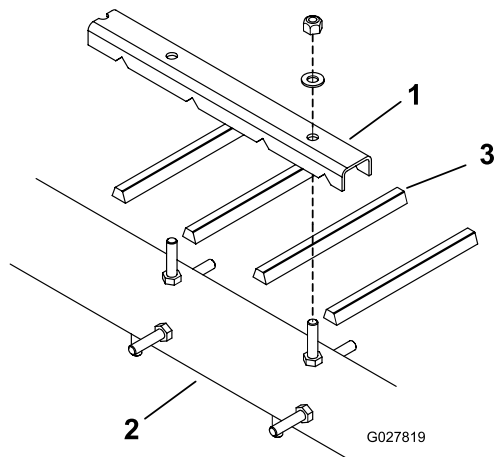
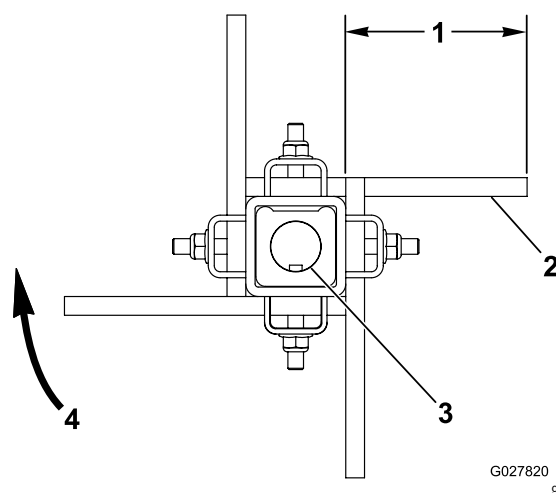

Figure 11
Figure 12
1. Loosen the nuts and washers securing the finger pinchers to rotor (Figure 11 and Figure 12).
3. Install new belt fingers (Figure 11 and Figure 12). Belt fingers extend from finger pinchers approximately 10 cm (4 inches).